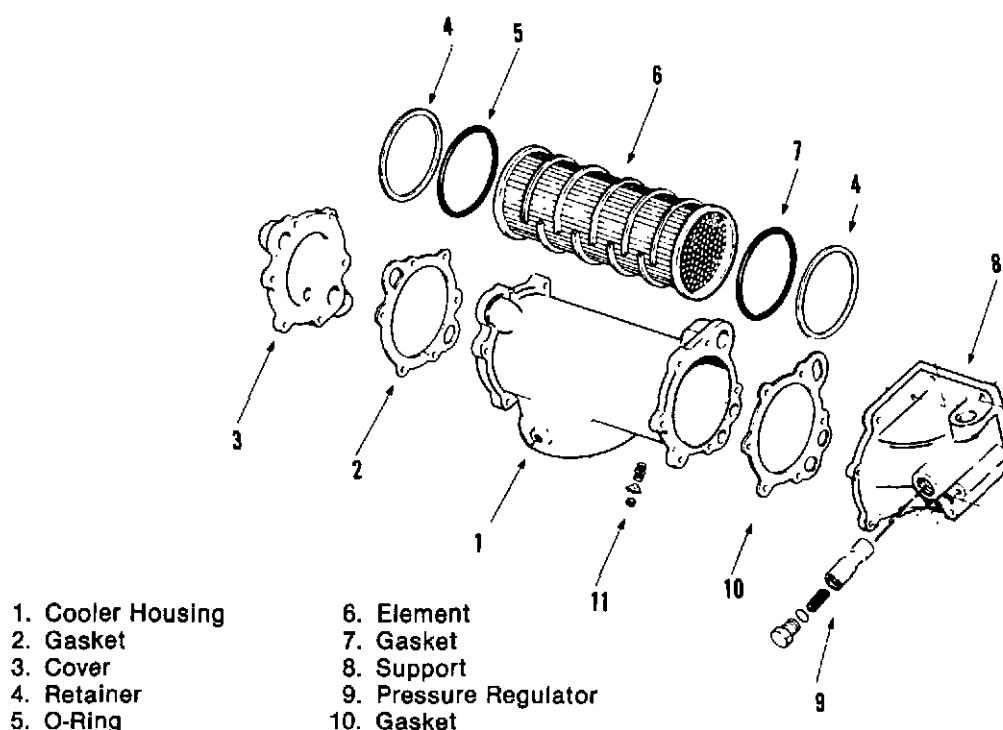

Fig. 7-20. FFC and Big Cam Oil Cooler
1. Remove the cooler support (8, Fig. 7-20) and cover (3) from the housing (1).
2. Remove and discard the gaskets (2 and 10) and retainers (4).